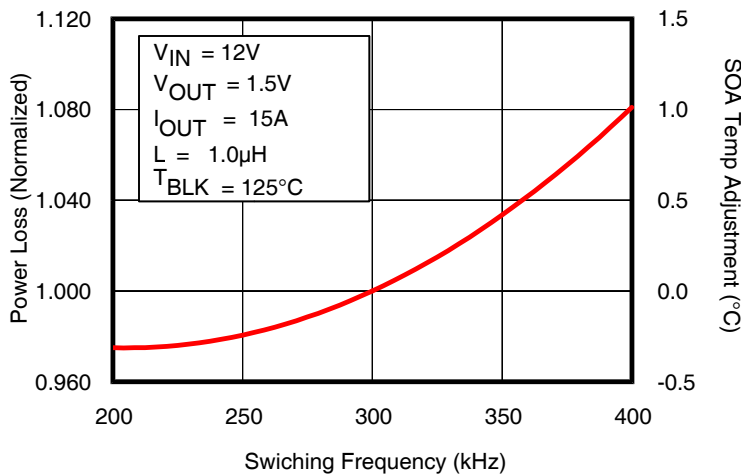

Fig. 6: Normalized Power Loss vs. Frequency
- (Fig. 6) Normalized power loss for frequency ≈ 1.08
(Fig. 6) Normalized SOA Temperature for frequency $\approx +1.0^{\circ}\text{C}$